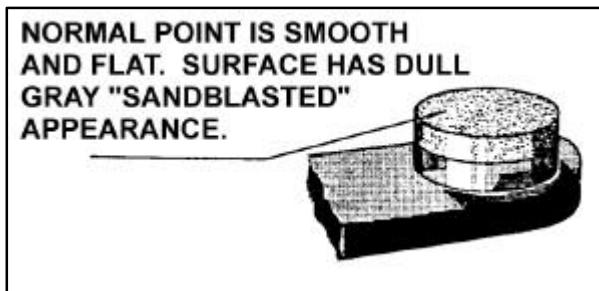
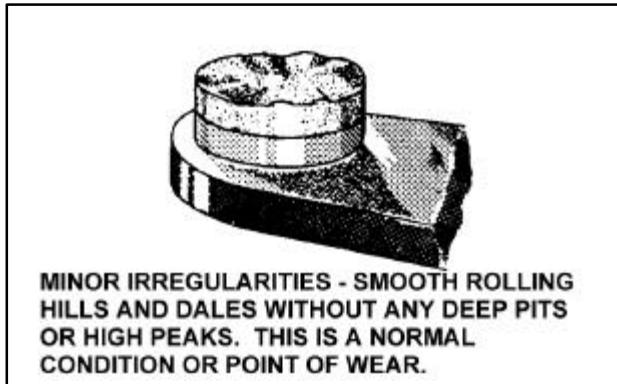
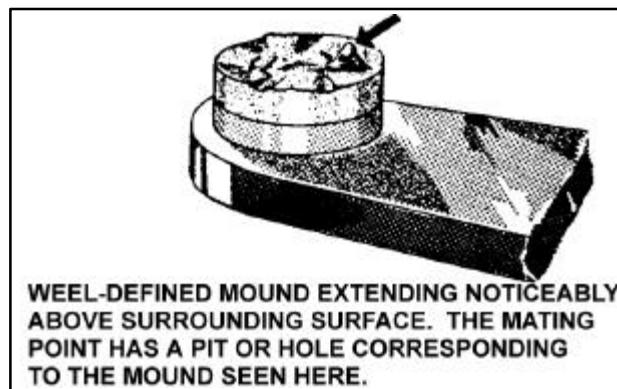

FIGURE 8-9. Normal contact point.
FIGURE 8-10. Point with minor irregularities.
FIGURE 8-11. Point with well-defined mound.
g. Examine the points for excessive wear or burning. Discard points which have deep pits or excessively burned areas. Desired contact surfaces have a dull gray, sandblasted (almost rough) or frosted appearance over the area where electrical contact is made. Figure 8-9 shows how the normal contact point will look when surfaces are separated for inspection. Minor irregularities or roughness of point surfaces are not harmful (see figure 8-10), neither are small pits or mounds, if not too pronounced. If there is a possibility of the pit becoming deep enough to penetrate the pad (see figure 8-11), reject the contact assembly.